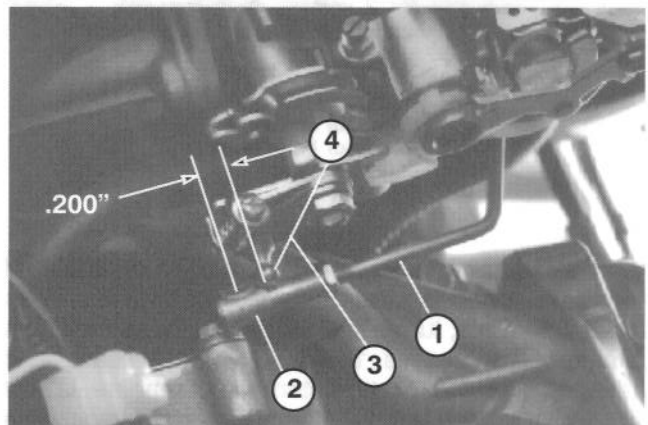

Figure 42
2. Rotate governor input lever clockwise to put a light tension load on the governor spring. Hold carburetor throttle against wide open throttle stop and adjust the ball joint on throttle rod to allow the ball joint socket to travel past the carburetor throttle stud by $.200'' \pm .031''$ (Fig. 42). Tighten locknuts on throttle rod. Ball joints must move freely through full travel.
3. While rotating governor input lever counterclockwise and holding the carburetor throttle against the low idle stop, adjust the surge screw to allow the ball joint socket to travel past the carburetor throttle stud by $.200'' \pm .031''$, in opposite direction shown in figure 42.